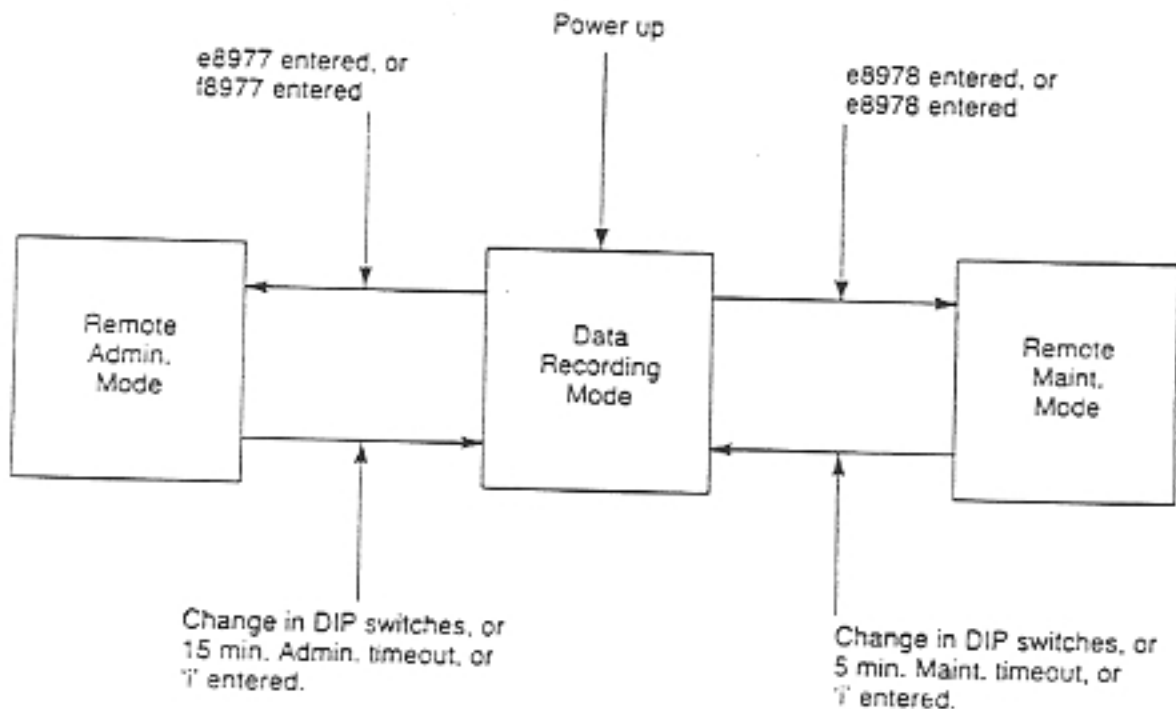

Fig. 4-2
- 4.04 The allowed switching between these three modes is shown in Figure 4-2. The Data Recording mode is the power-up default mode for the interface and is typically the mode normally running. This is the only mode in which internal system information cannot be altered.